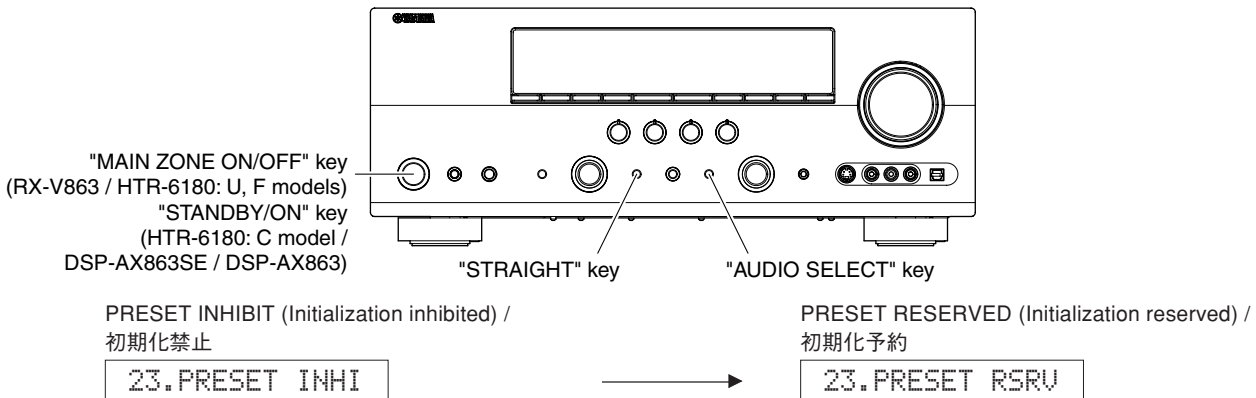

Fig. 4
2. Press the "MAIN ZONE ON/OFF" (RX-V863 / HTR-6180: U, F models) / "STANDBY/ON" (HTR-6180: C model / DSP-AX863SE) key while simultaneously pressing the "STRAIGHT" and "AUDIO SELECT" keys. (Fig. 4)
2. "STRAIGHT"キーと"AUDIO SELECT"キーを押しながら、"STANDBY/ON"キーを押して、ダイアグを起動します。(Fig. 4)